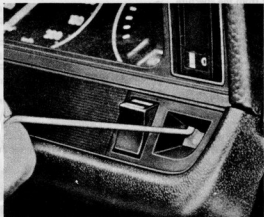

Fig. 10.31. Removing the ventilation fan switch using a wire hook (Sec. 33)
- 2 Make a hook out of a piece of thick wire and pull the switch assembly from the panel by engaging the hook in the indicator light recess as shown in Fig. 10.31.